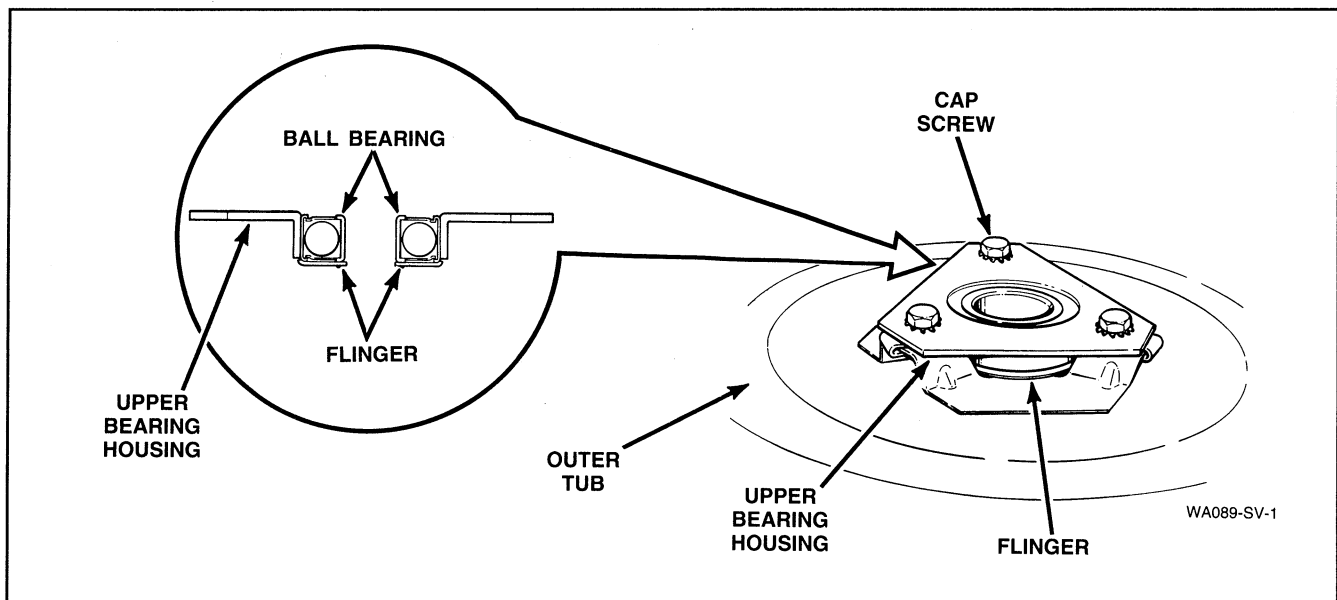

Figure 39
- c. Remove three screws holding upper bearing and housing to bottom of outer tub, *Figure 39*.
NOTE: Replace bearing and housing as an assembly, and be sure flinger is properly positioned between the outer tub and bearing assembly, *Figure 39*.